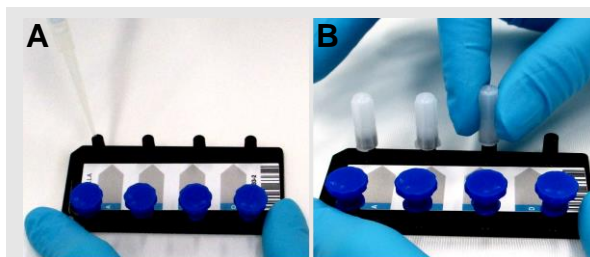

Figure 3: Add the PCR reaction mix (A) and place one tall cap onto each inlet (B).
- a. Tighten the tall white vented Sapphire Chip PCR cap enough to avoid disconnection from the inlets (**Figure 3**).